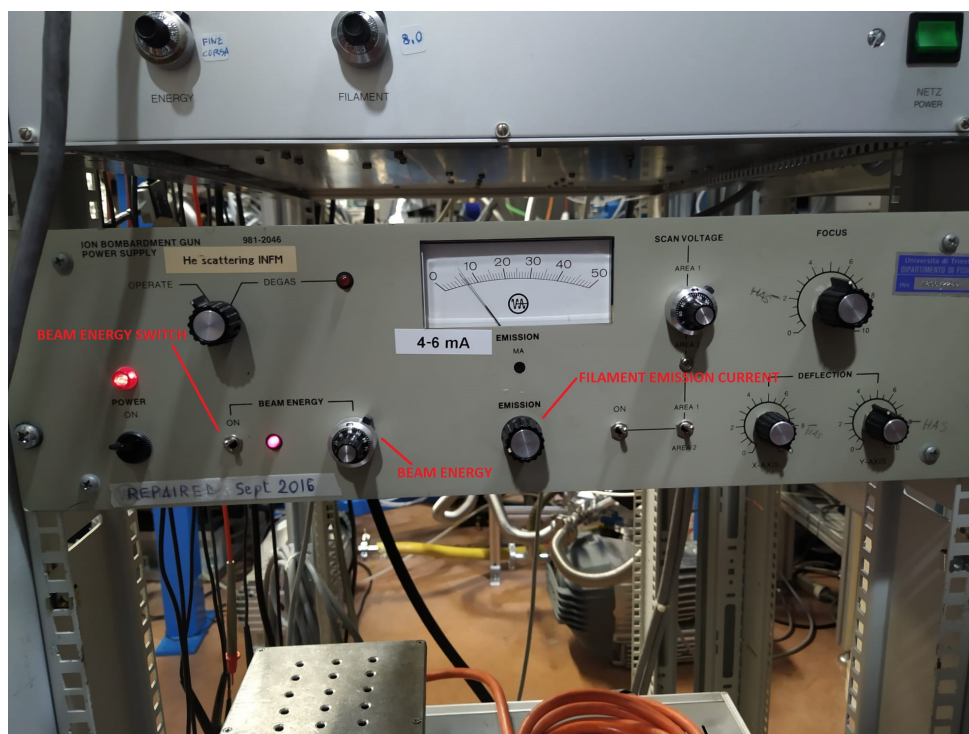

Figure 37: Ar ion Gun Controller.
6. Set the emission current to 4-6 mA (see fig.37).
7. Set the Beam energy on the ion Gun Controller (see fig.37): typically 1-2kV and turn on the beam energy switch.